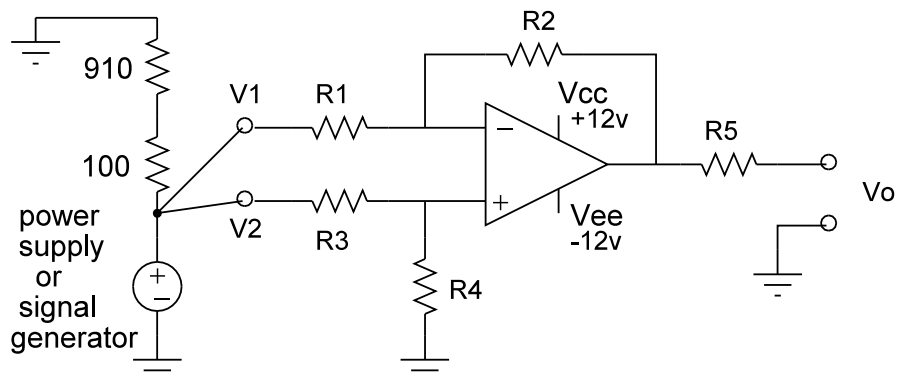

Figure 3
- 4) To measure common mode gain the same signal needs to be applied simultaneously to V_1 and V_2 . See figure 3. The wire to input V_1 can be changed to the same circuit node that connects to V_2 . The same voltage will thus be applied to both inputs.